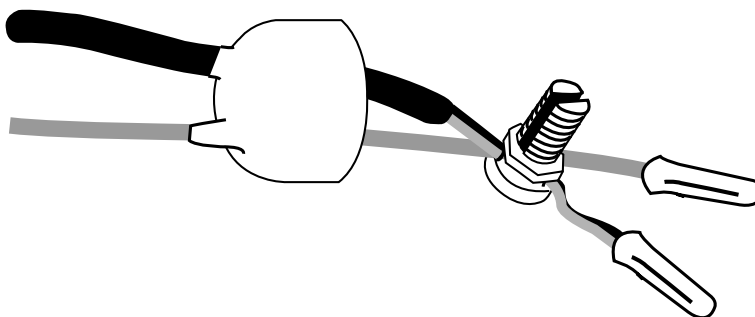

Figure 10. Probe Cable Splice
7. Use the aluminum bonding clamp to hold the Direct Burial and probe/sensor cables together [Figure 10 on page 16]. Finger tighten, being careful not to damage the conductor insulation. This clamp is not intended to make any electrical connections.